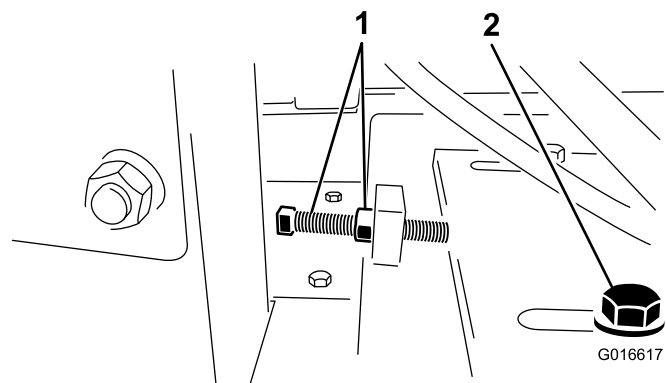

Figure 25
6. Loosen the belt-tension bolt and jam nut. Slide the engine toward the flywheel housing to loosen the belt (Figure 25).
6. Loosen the belt tension bolt and jam nut and slide the engine toward the flywheel housing to loosen the belt (Figure 25).